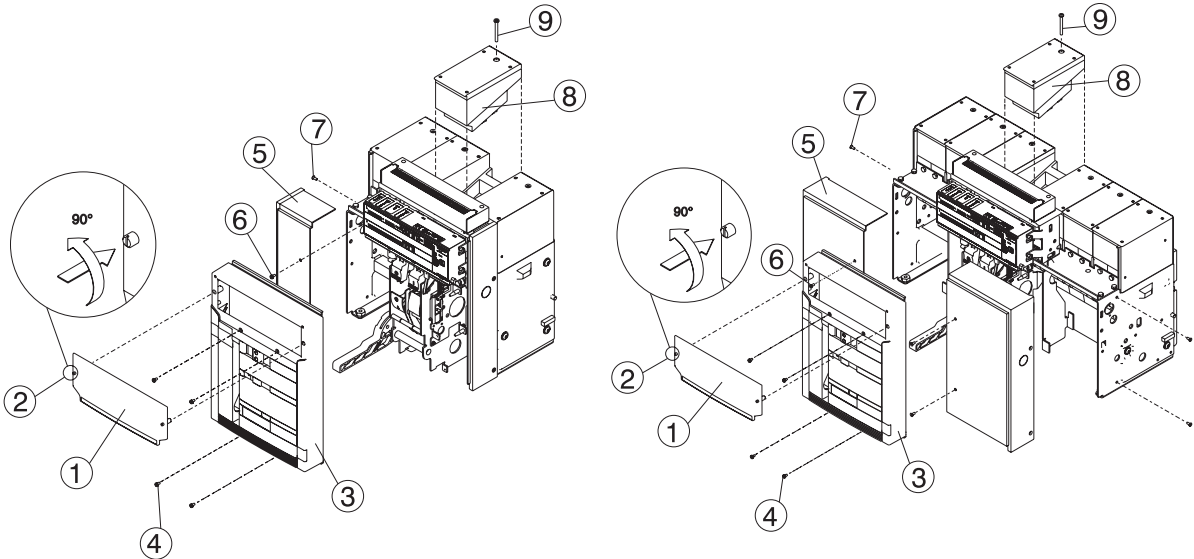

Fig. 44
- Make sure that the releases (YO, YU, YC) are in good conditions (absence of excessive wear, overheating, breakages) Fig. 44.